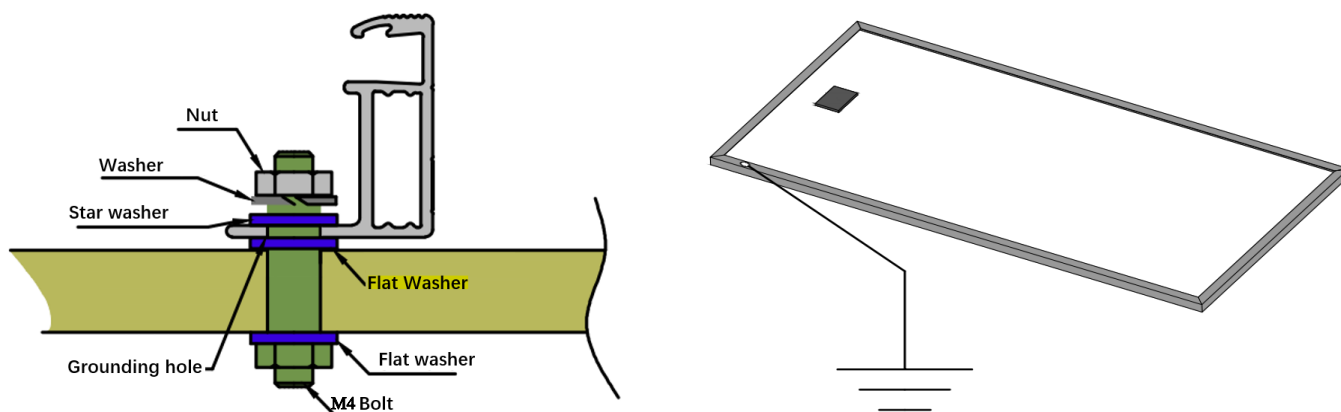

Fig. 5 Ground connection of PV modules
- e) All module frames and mounting racks must be properly grounded in accordance with local and national electrical codes. Attach the equipment grounding conductor to the module frame using the hole and hardware provided. Note that a stainless-steel star washer is used between the grounding wire and module frame (see Figure 5 below). This washer is used to avoid corrosion due to dissimilar metals.Tighten the screw securely, and the tightening torque shall be big enough so that the grounding wire can not be pulled off by hands.Recommended mounting torque value 1.5N*m . Follow the installer's guidance for the grounding installation.